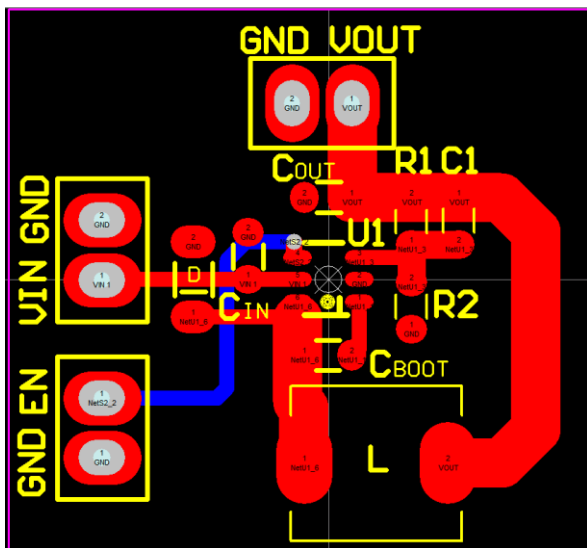

Figure 22. PCB Layout
For proper operation and minimum EMI, care must be taken during printed circuit board layout. Figure 22 shows the recommended component placement with trace, ground plane and via locations. Note that large, switched currents flow in the ATDC1934 VIN and SW pins, the catch diode (D) and the input capacitor (C_{IN}). The loop formed by these components should be as small as possible. These components, along with the inductor and output capacitor, should be placed on the same side of the circuit board, and their connections should be made on that layer. Place a local, unbroken ground plane below these components. The SW and BOOST nodes should be as small as possible. Finally, keep the FB nodes small so that the ground traces will shield them from the SW and BOOST nodes. The Exposed Pad on the bottom of the package must be soldered to ground so that the pad acts as a heat sink. To keep thermal resistance low, extend the ground plane as much as possible, and add thermal vias under and near the ATDC1934 to additional ground planes within the circuit board and on the bottom side.